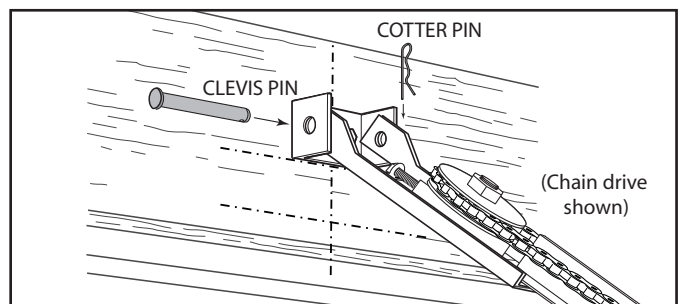

FIG. 2-5 Rail mounting to header bracket.
- Attach rail to header bracket using clevis pin and cotter pin (**Fig. 2-5**).